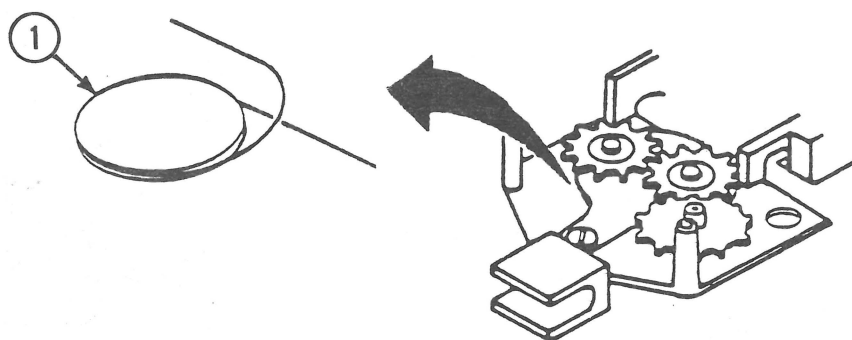

FIGURE 10
8. Notice how the ribbon wire is wrapped around the ribbon pulley gear (Figure 10, #1). Also, notice how the ribbon wire goes through the carrier assembly. This will help you when you have to replace the ribbon wire.